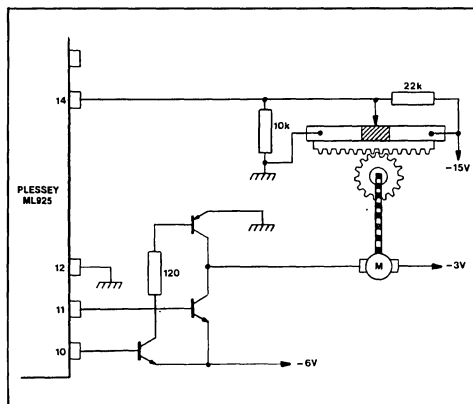

Fig.4 Infra-red control for vehicle with 3-position steering
- Vehicle type A will drive at half or full speed and has a latching drive. The steering has three positions: hard left, centre and hard right and is driven momentarily during code transmission. The centre position may be indicated by a contact running on a conductive track attached to the steering bar (see fig.4). The track should have a non-